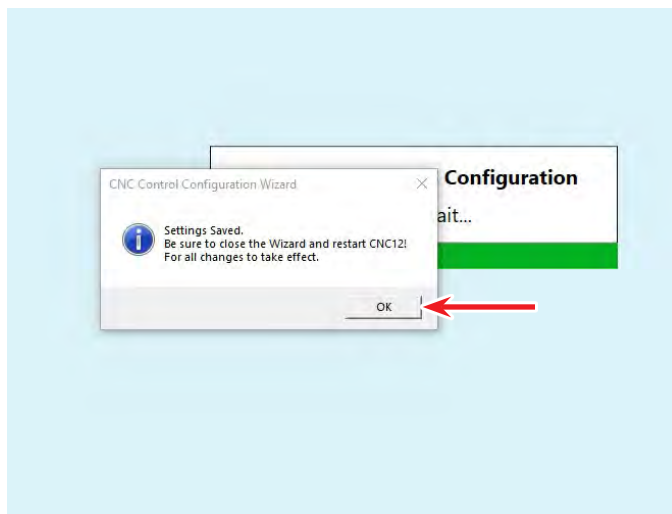

FIGURE 18
22. After the settings have been saved you will need to close the Wizard and restart CNC12. Click “OK” (see Figure 18).